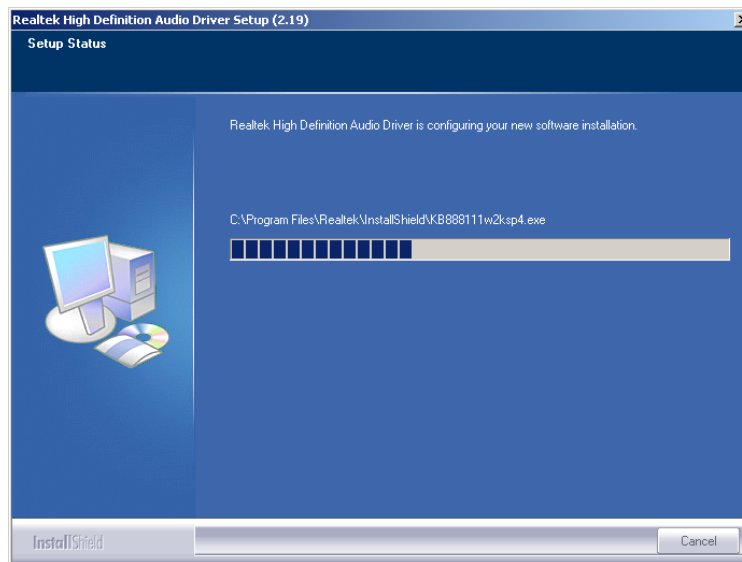

Figure 6-21: Audio Driver Progress Screen
Step 8: InstallShield starts to install the new software as shown in Figure 6-21.